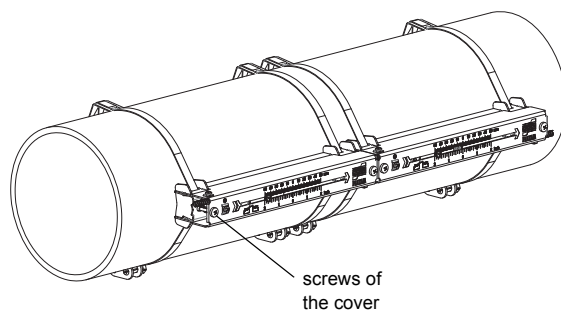

Fig. 9.29: Transducers with Variofix L on the pipe
- Tighten the screws of the cover (see Fig. 9.29).